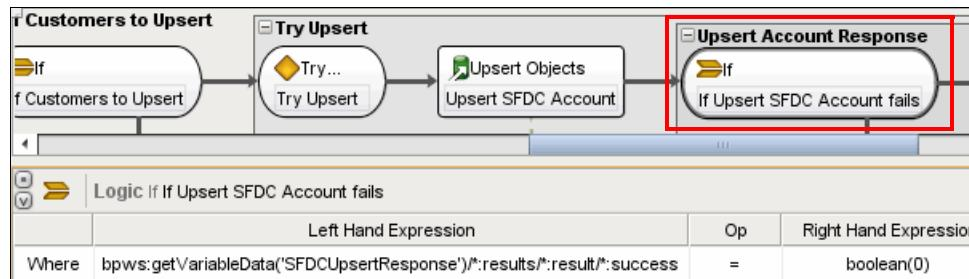

Figure 10-41 Validate that the upsert successful
4. The If Upsert SFDC Account Fails If-Then activity, validates that the upsert was successful by looking at the success element of the **SFDCUpserResponse** variable (refer to Figure 10-41 on page 383).